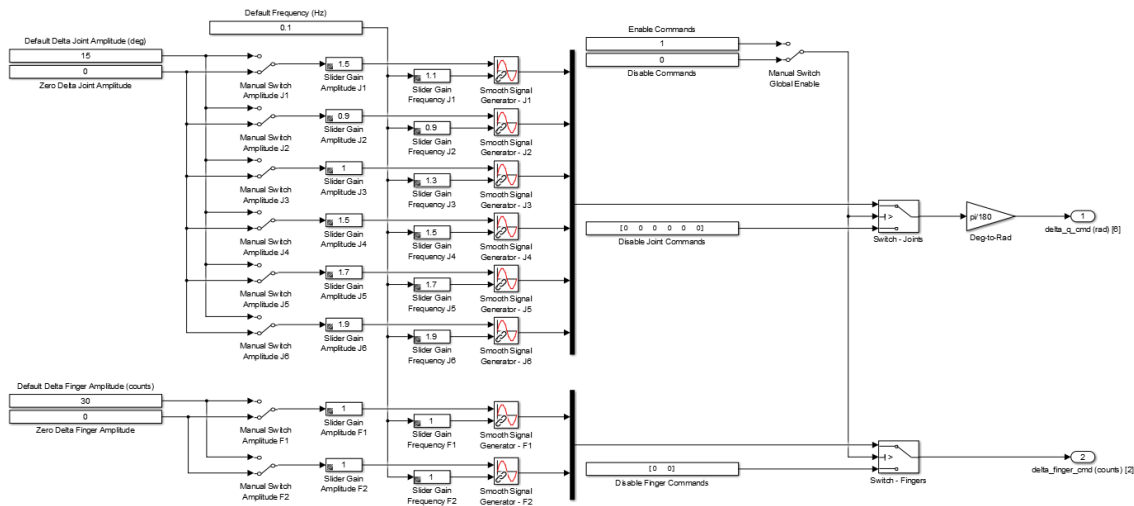

Figure 3.2: Relative joint commands in MICO_Basic_IO_6DOF.slx model
7. In the *Generate Joint Commands* subsystem shown in Figure 3.2, set the *Manual Switch Global Enable* to the upward *Enable Commands* position.